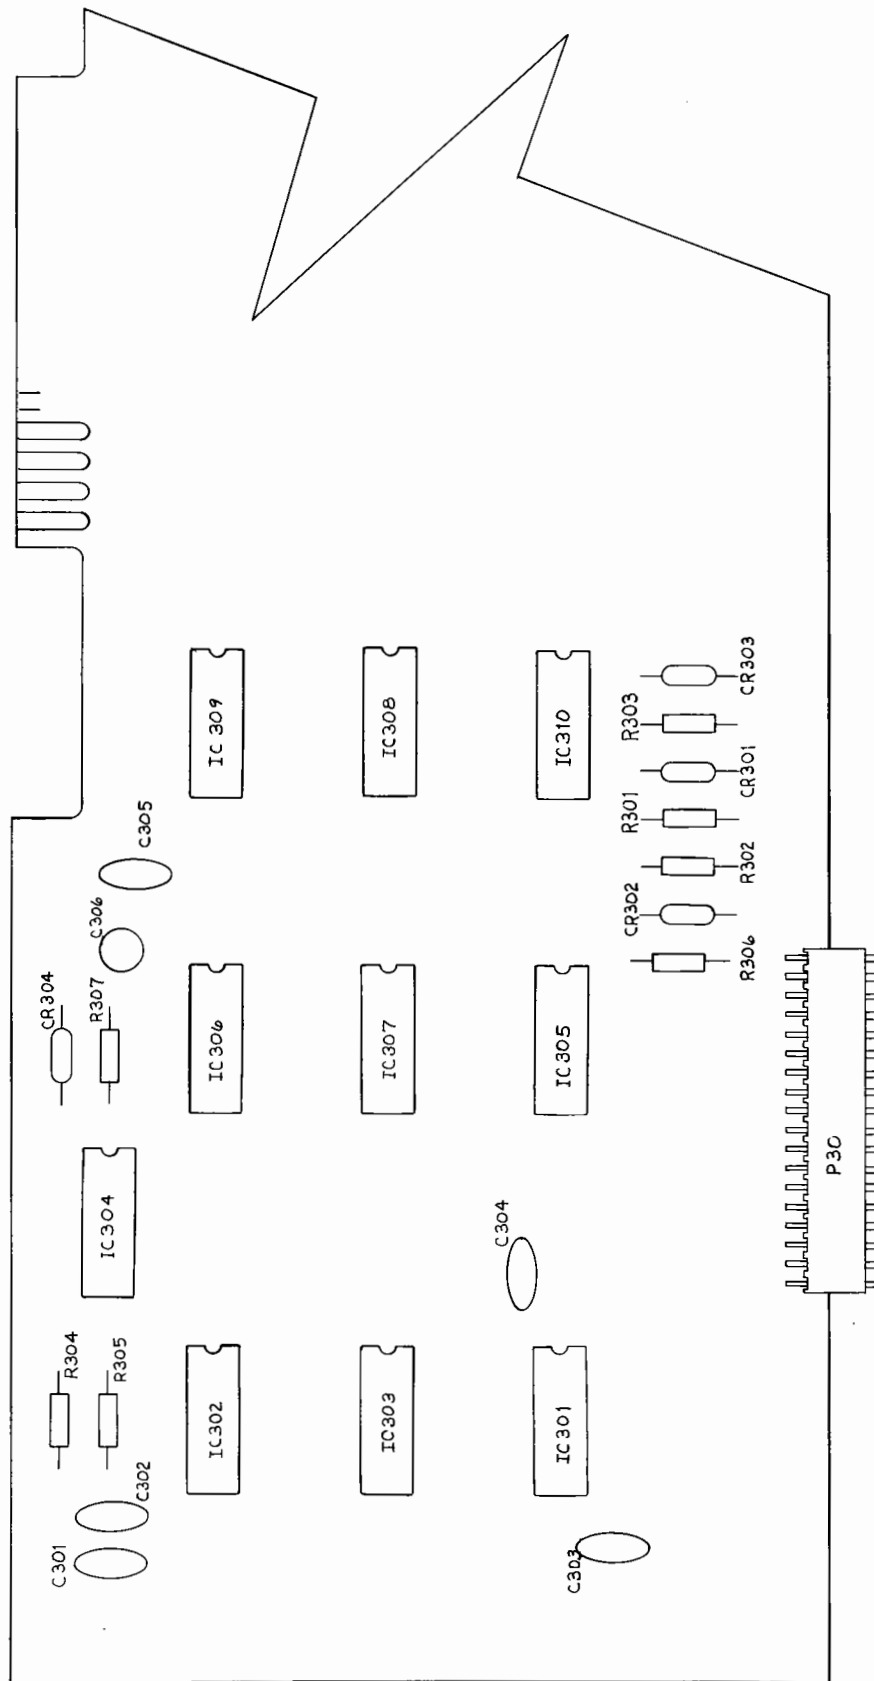

FIG.6-5 COMPONENT LOCATION BCD OPTION BOARD
6.13 Digital BCD Output Option (Refer to Fig. 6-5)